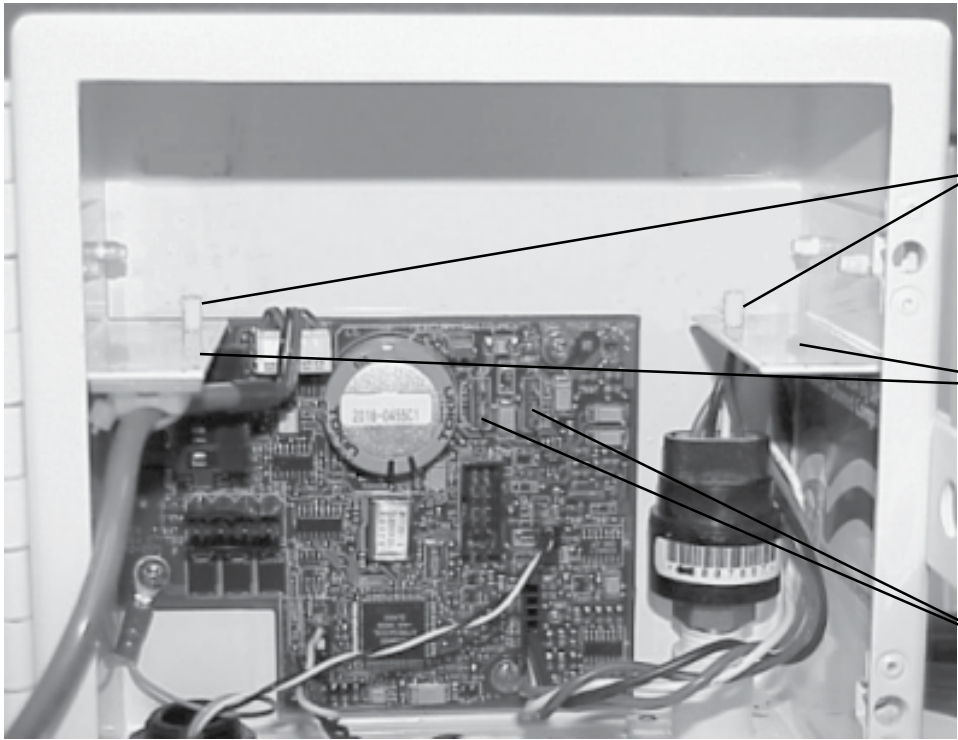

Fig. 5
The standard power supply for the Mini-Max is an alkaline receptacle pack (40-2595) with four replaceable D-cell batteries. The battery pack is mounted above the printed circuit board (see Figs. 5, 6 on Page 22). The expected service life of the battery pack is greater than four (4) years under normal use, with considerable reserve to allow for battery replacement after the low battery alarm occurs. If the battery voltage drops below a preset value, a BATTERY LOW alarm occurs. When this alarm occurs, the batteries should be replaced as soon as possible.